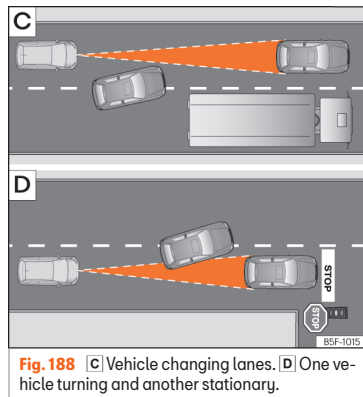

Fig. 188 **C** Vehicle changing lanes. **D** One vehicle turning and another stationary.
- Vehicles that move into your lane, a short distance from your vehicle » » **Fig. 188 C**.
The ACC does not react to stationary vehicles. If, for example, a vehicle detected by the ACC turns or moves over and there is a stationary vehicle in front of it, the ACC will not react to the second vehicle »» Fig. 188 [D].